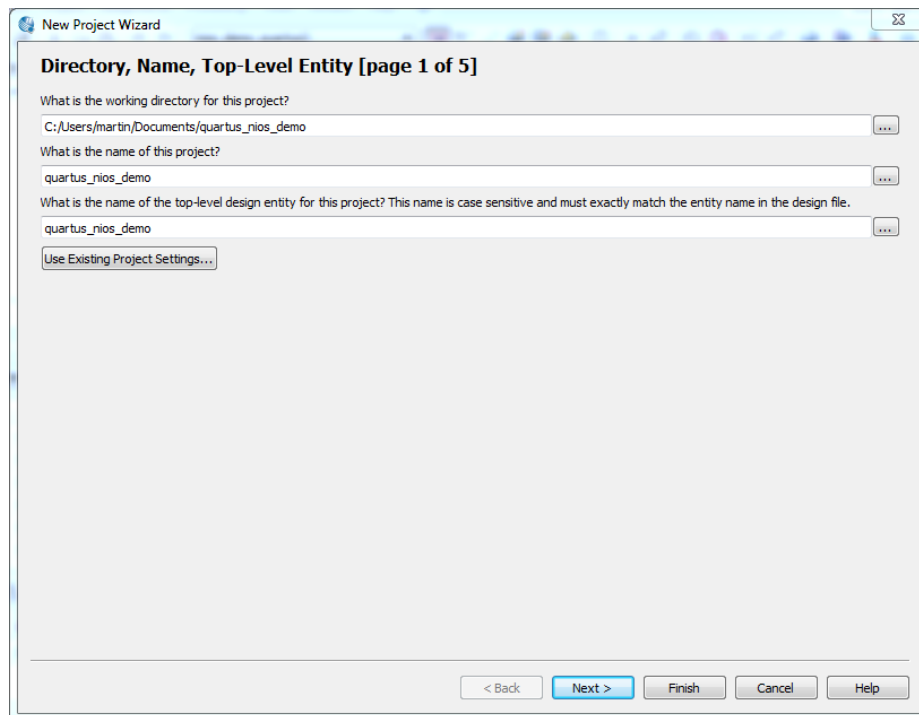
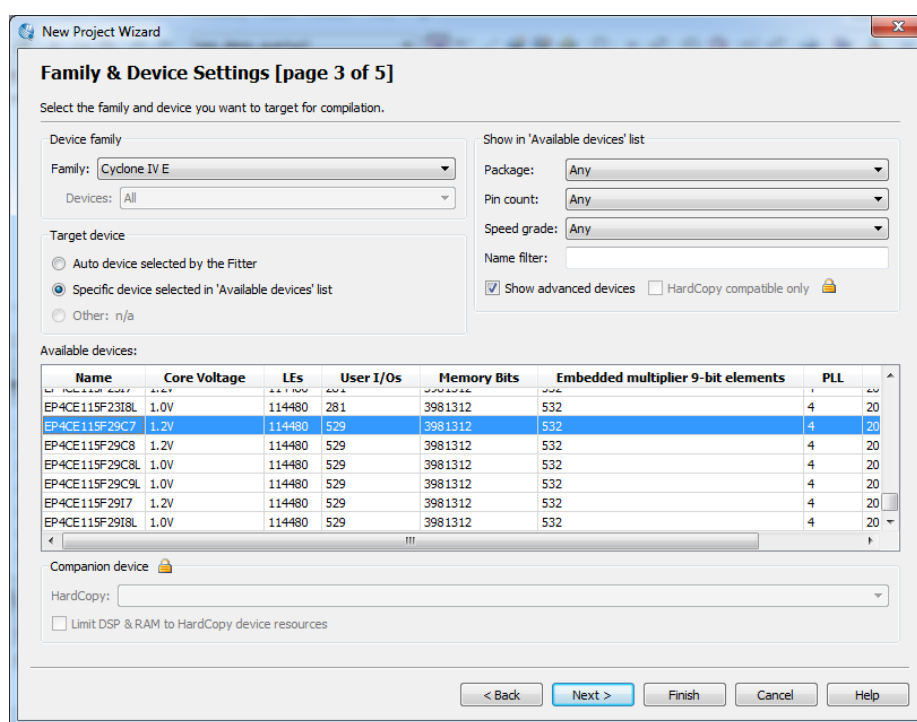

Figure 1.2: page 1 of the QuartusII New Project Wizard
Figure 1.3: page 3 of the QuartusII New Project Wizard
**basic QuartusII project setup** We assume that you have started an instance of QuartusII. Begin by creating a new QuartusII project, by selecting File/New from the menubar and choosing "New Quartus II Project" from the window, which opens. This starts the New Project Wizard. Fill in your project name and the top-level design entity name (remember this name carefully and name your top component exactly like this). Now you just have to choose the working directory for this project (QuartusII will *not* create a folder within the working directory, so choose an empty folder). Your project settings should like like figure 1.2) now. If you have checked your input, you can continue by choosing the "Next  $\zeta$ " button. You can skip the Add Files Wizard page by selecting "Next  $\zeta$ " again. On page three, you have to select your exact model of FPGA device. Choosing your FPGA device with caution as a wrong device setting could cause damage to the hardware. For the DE2-115 development board that was used for this introduction, we had to choose the "EP4CE115F29C7" device (see figure 1.3). To be sure, which device is used in your board, check the label on the FPGA chip (see figure 1.4). You can skip page four by selecting "Next  $\zeta$ ". Page five will give you a summary of your project settings. Finish the New Project Wizard with "Finish".